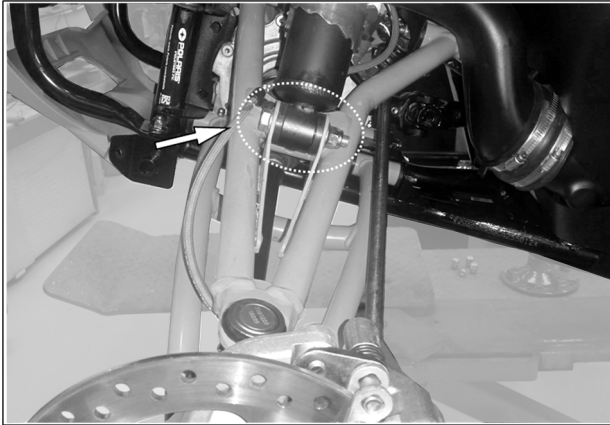

Fig. 17
- Remove lower shock absorber mounting bolt temporarily and pivot the shock absorber away from mounting point. You will then be able to lift the suspension arms to facilitate installation of anchor bracket cover. See Fig. 17